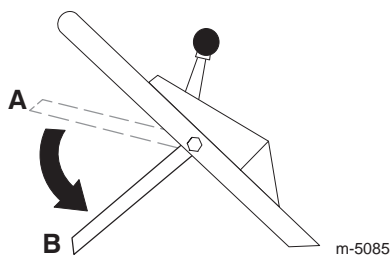

Figure 17
- Release the blade control bail; refer to position **B** in Figure 17. You should hear a “bang.” The blade should stop in 3 seconds.
- Move the blade control bail down to its lowest position (Position **B** in Fig. 17).